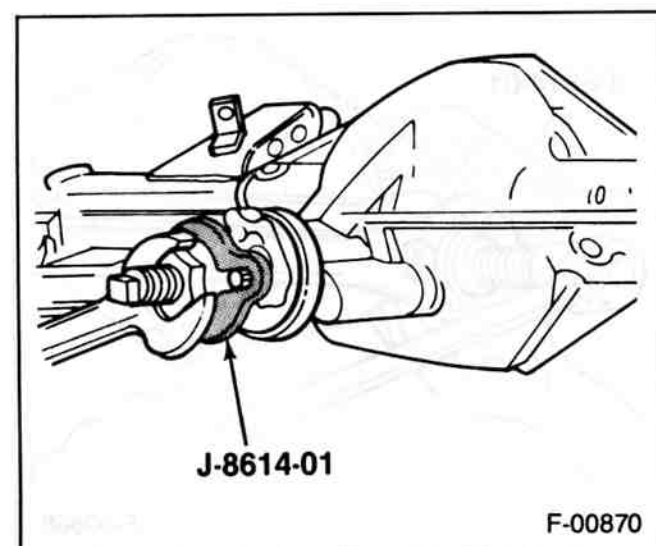

Figure 21—Installing The Pinion Flange
- Place washer and nut on the pinion threads and tighten the nut to the original scribed position using the scribe marks and exposed threads as a reference (figure 21). **DO NOT ATTEMPT TO HAMMER THE FLANGE ONTO THE PINION SHAFT.**